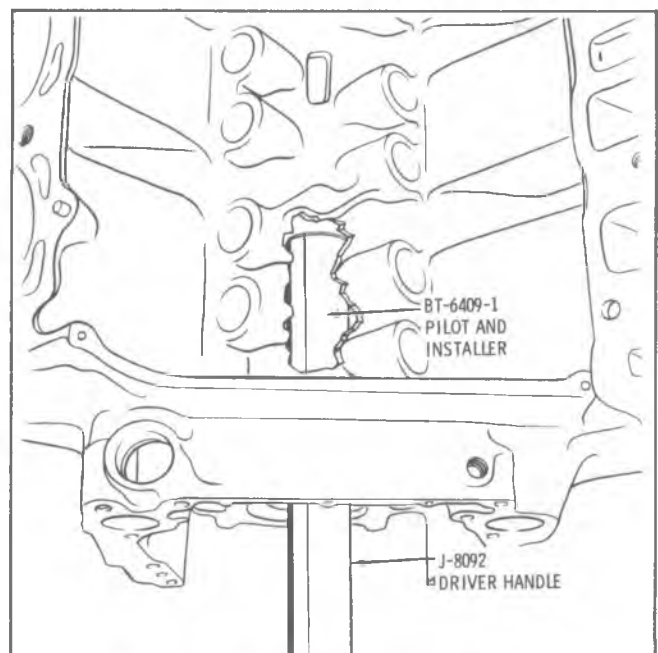

Fig. E-87—Installing No. 1 Cam Bearing
5. Install Tool BT-6409-1 on Handle J-8092 and place No. 1 bearing on installer. Drive bearing in until it is flush with front face of block. (Fig. E-87)